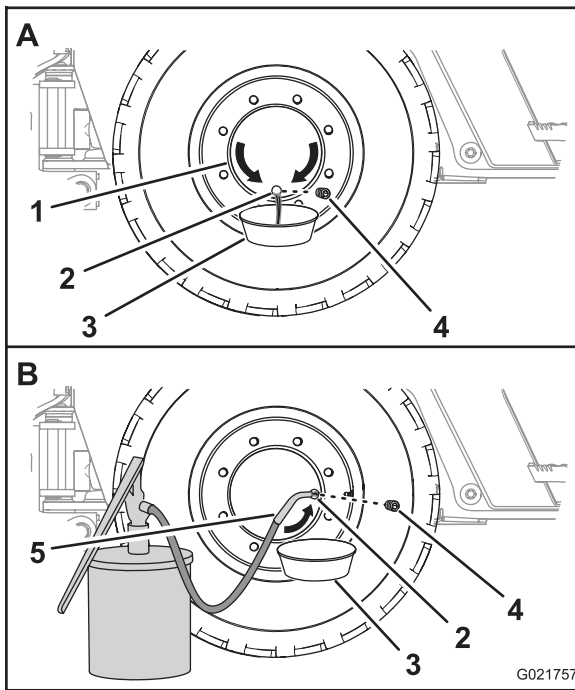

Figure 66
1. Move the machine forward or backward until the oil plug for the wheel hub is at the 6 o'clock position (Figure 66).
2. Place a drain pan under the oil port of the wheel hub (Figure 66).
3. Remove the plug and drain the oil from the planetary (Figure 66).
5. Move the machine forward or backward until the oil plug for the wheel hub is either at the 3 o'clock or the 9 o'clock position (Figure 66).